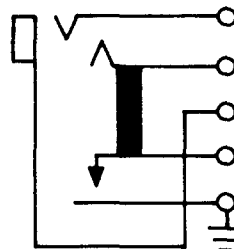

Fig. 10—365 Jack
2.10 **365:** This strip-mounted jack (Fig. 10) is furnished only on orders for jack mountings and is used with the 310 plug. The 365 jack is used with 107, 108, 109, 110, 112, 115, 116, 131, 136, 137, 180, 181, 217A, and 250A jack mountings.